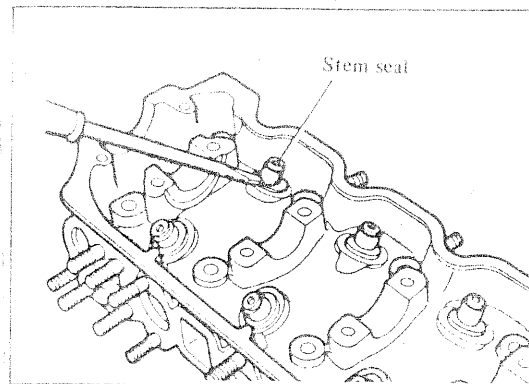

Figure 1.2-G. Stem Seal Removal
1.2.6- CYLINDER HEAD INSPECTION (Figures 1.2-H through 1.2-V)